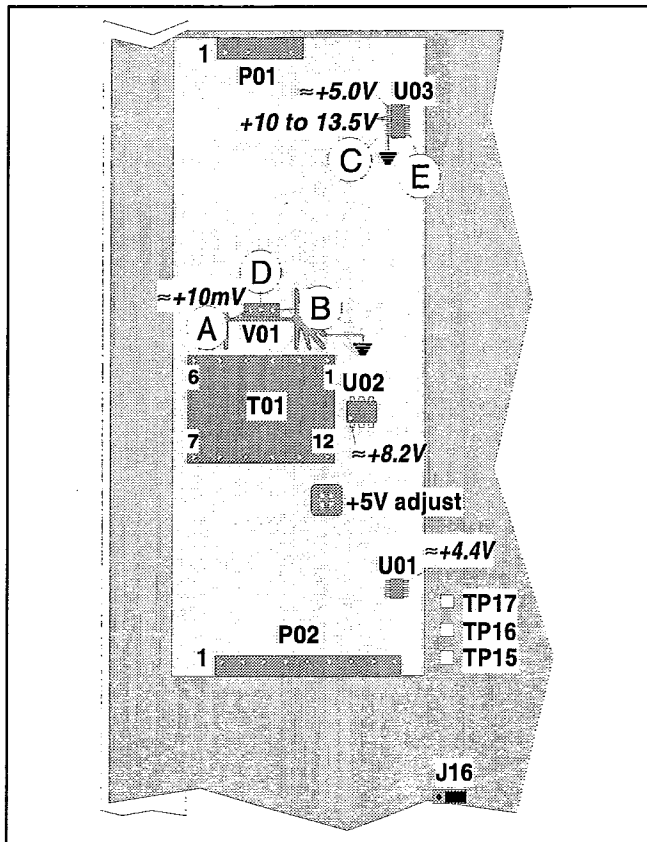
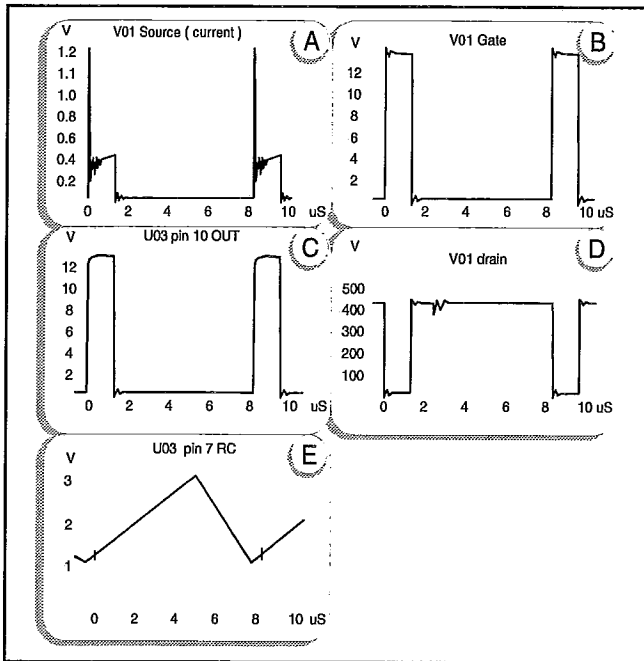

Figure 9-9 Test points and voltages for the power supply.
Figure 9-10 Typical curves of the power supply.
- Disconnect the power module from the main PCA and check the resistance between pin 1 and 4 on the transformer T01, see Figure 9-9. If the DMM show a short circuit the fault is probably a broken transistor V01. Put the power module back in position.
- Check the curveforms according to Figure 9-9 and Figure 9-10 to verify the primary circuits. Use the heat-sink of V01 as ground.